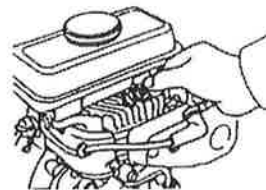

Fig. 19
4. Check if the spark plug gasket is in good conditions, or replace with a new one. Screw on the spark plug to the bottom first by hand to prevent cross – threading (Fig. 19).
**The hole in throttle is used for mounting control steel wires. Fig. 19 shows how to mount a stiff steel wire.**